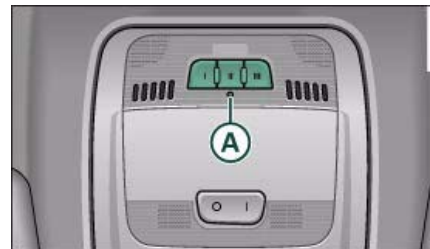

Fig. 171 Operating unit in headliner
⇒ *page 154*, fig. 171 until the indicator diode **(A)**
⇒ *page 154*, fig. 171 begins to flash after about 20 seconds. This procedure will delete the standard factory settings and does **not** need to be repeated when programming the other buttons.
- Watch HomeLink diode **(A)** ⇒ *page 154*, fig. 171. If the diode starts flashing rapidly and turns into a constant light after about 2 seconds, this indicates that the device you wish to operate (e.g. a garage door opener) is equipped with a rolling code.
- Press the programmed HomeLink button ⇒ *page 154, fig. 171*. The device assigned to that button (e.g. garage door) will be activated.
The HomeLink indicator diode ⇒ *page 154, fig. 171* will light up when you press the button. ■
- Press and hold down the two outer buttons until the indicator diode starts to flash ⇒ *page 154, fig. 171*.
- Press and hold down the selected button until the indicator diode ⇒ *page 154*, fig. 171 starts flashing slowly.